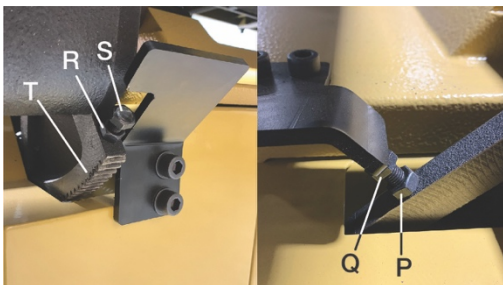

Figure 9-3: 90° and 45° Stop Screws
Turning the sanding belt tilt wheel (F) clockwise will tilt the belt towards the 0° (90° to table) tilt stop. Turning the sanding belt tilt wheel counterclockwise will tilt the belt towards the 45° (135° to table) tilt stop. The belt angle will show on the sanding belt angle digital readout (K). The sanding belt 0° and 45° tilt stops have been factory set and should require no immediate adjustment. The settings should be confirmed by the operator to ensure accurate angle sanding. Both tilt stop screws (Q and S) are located on the trunnion (T) (see Figure 9-3).